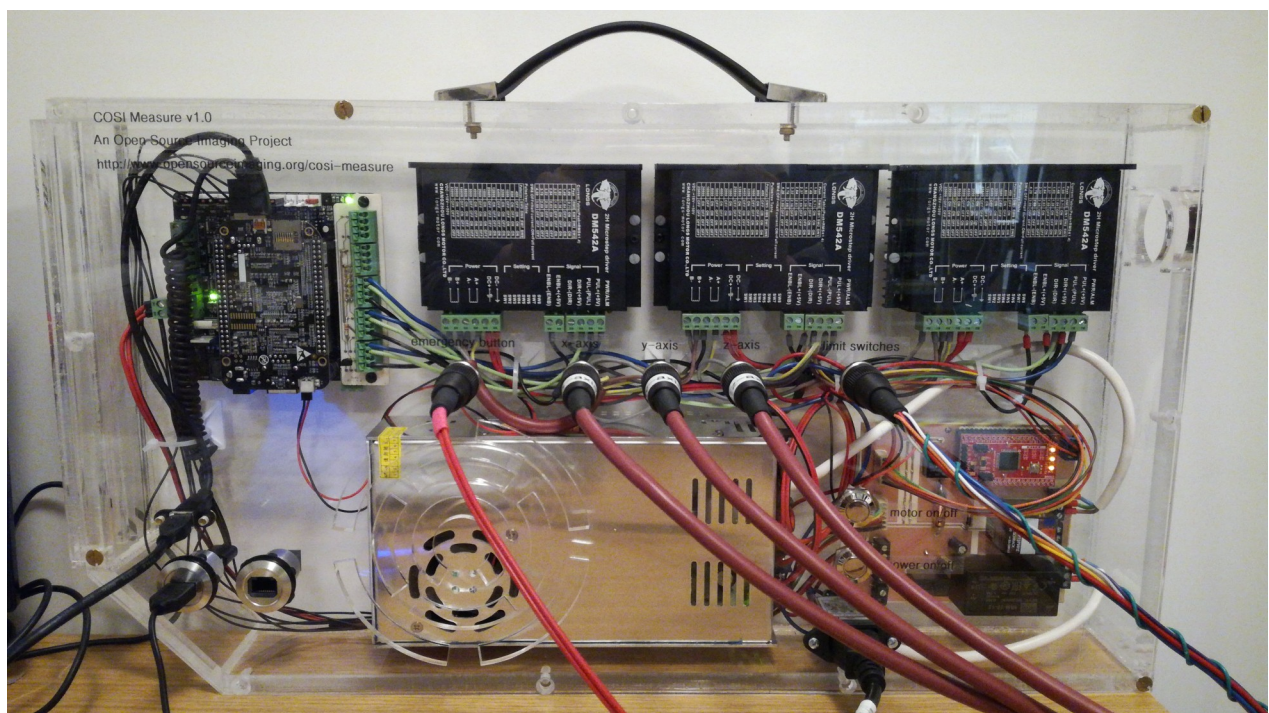

Figure 1 Final electrical setup of COSI Measure inside the casing (front view).
3.2. Attach the BeBoPr++ and the power management board to the distance holders using M3x6 screws. Make sure that the orientation of the boards is correct in order to not have any surprises later on with the wiring (check Figure 1 for reference).
3.4. Attach the drivers using M3x15 screws and the power supply using the M4x10 screws to the baseplate. Your assembled setup should look like in Figure 1.